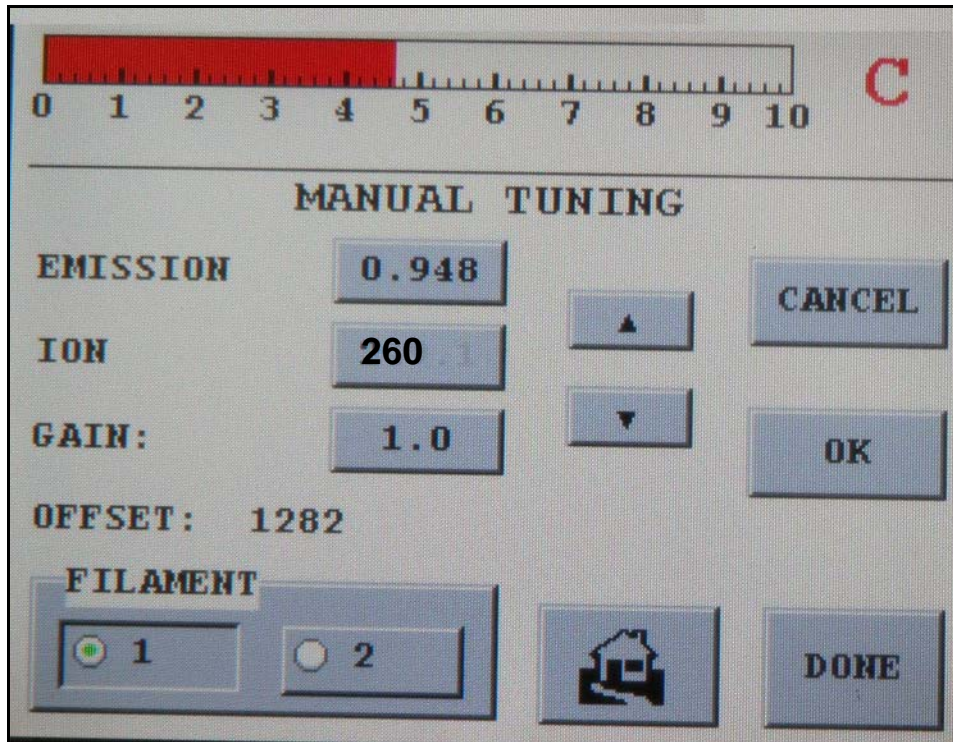

Figure 2-17 Manual Tuning Screen
1. Press **Manual Tuning** on the Set-Up screen and the Manual Spectrometer Tuning screen appears (Figure 2-17).